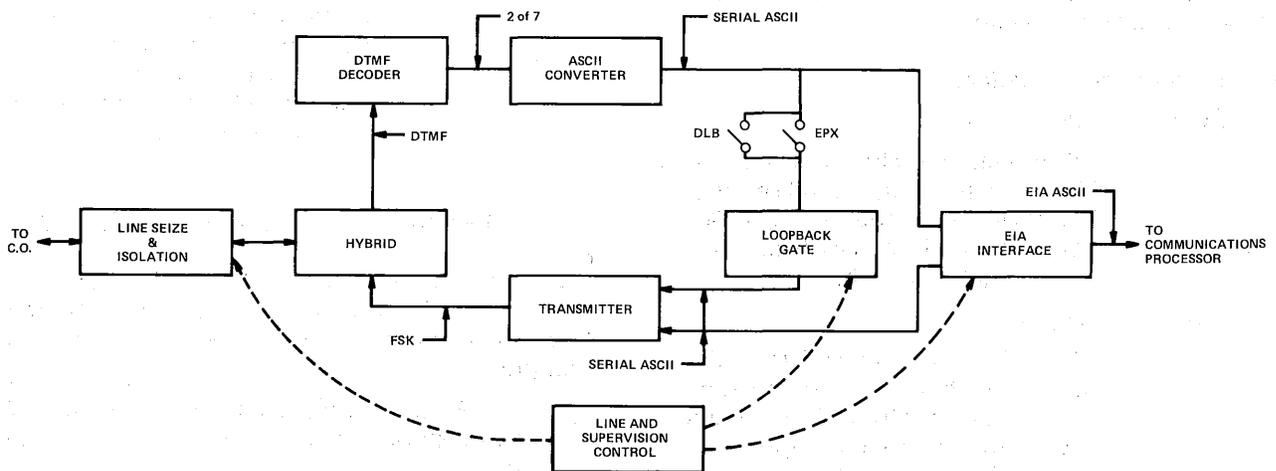

Figure 6, Block Diagram of Data Channel
3.01 Each data set board of the DS151A Data Station provides all the signaling functions for two-way half duplex communications between remote data terminals over the phone lines, and interfaced DTE's. Figure 6 is a functional block diagram of a data set channel. Table E indicates the selectable functions.